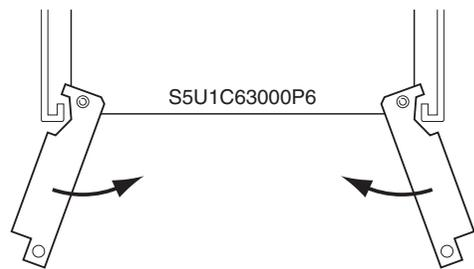

Figure 2.1.2 Installing S5U1C63000P6
- (3) Once the S5U1C63000P6 board has been inserted almost fully into the ICE, secure it in position by using the jig supplied with the ICE (see Figure 2.1.2).
- (4) When the above is done, replace the front panel.
Set the jig included with the ICE into position as shown in Figure 2.1.2. Using this jig as a lever, push it toward the inside of the board evenly on the left and right sides. After confirming that the S5U1C63000P6 board has been firmly fitted into the internal slot of the ICE, remove the jig.